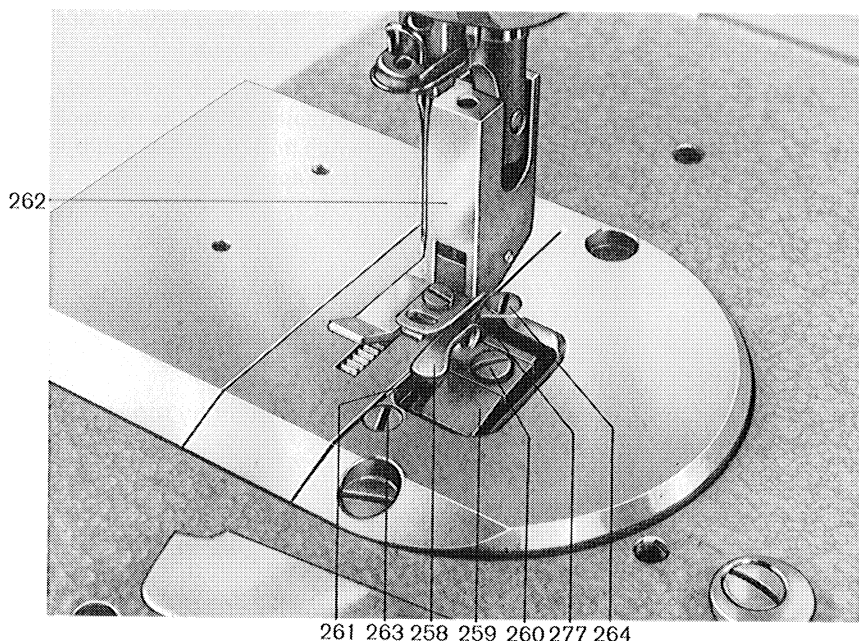
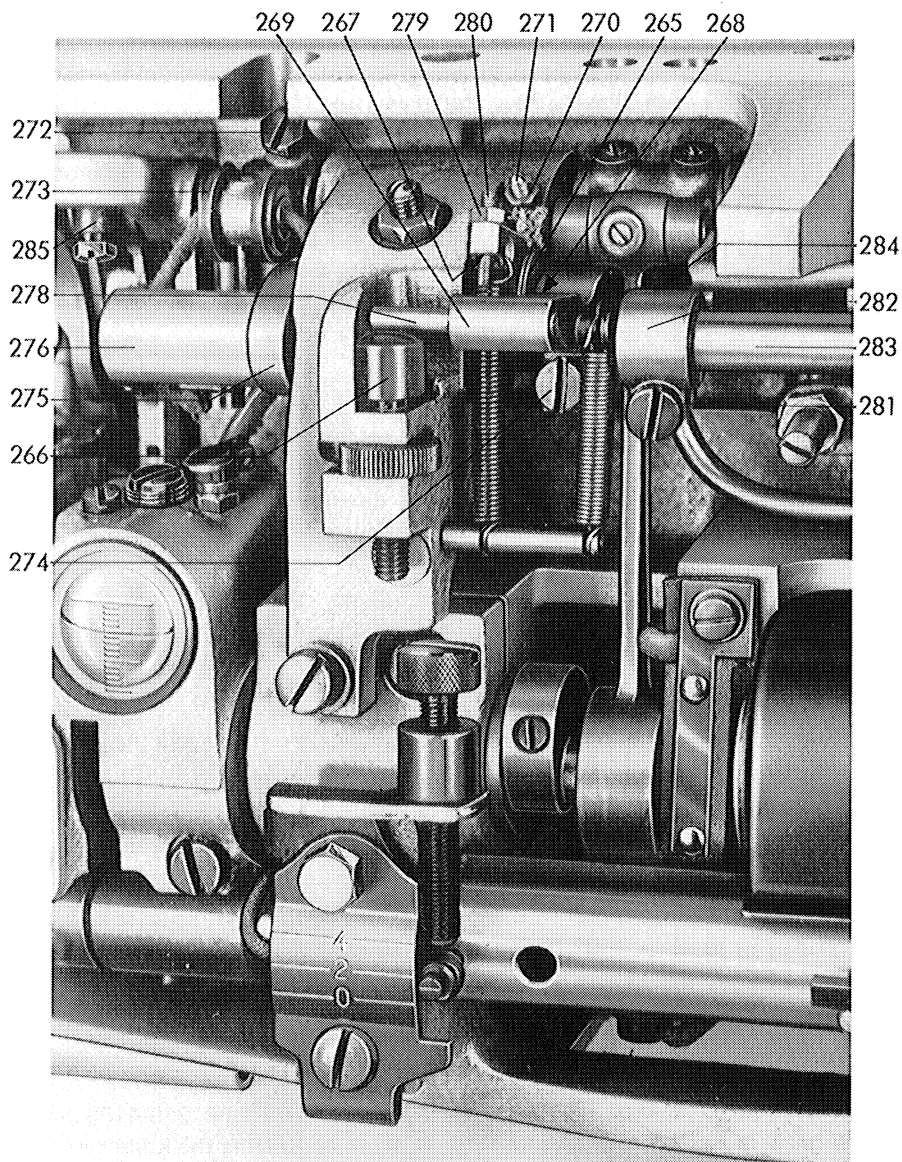

Fig. 40
Fig. 41
To change the spring-loaded upper knife 258 (fig. 40) shift slightly the knife carrier 259 to the right, hold it in this position, remove the screw 260 and fit a new knife.
The lower knife 261 (fig. 40) can be removed after having taken off the presser foot 262 and turned out the screws 263 and 264 from the throat plate. When replacing the lower knife ensure that the stellited side is showing to the right, i.e. to the upper knife.
In order to adjust the lowest position of the lifting movement which at the same time is also the lowest operation position of the upper knife, set first switch bush 265 (fig. 41) at zero. That means that in this position the eccentricity of the switch bush is not effective.
After loosening the thumb screw 272 (fig. 41) of the lifting lever 273 and the thumb screw 274 of the switch lever turn the lifting lever 273 on the lifting shaft so that the upper knife does not move when the floating axle 275 or the rocker arm is turned back and forth.
Turn the floating axle 275 (fig. 41) so that the rear upper edge 277 (fig. 40) of the knife carrier 259 is flush with the surface of the throat plate.
In this position, the pin 278 (fig. 41) of the switch lever 269 must rest on the stop screw 266 which is now in its lowest position. Following the adjustment retighten firmly the thumb screw 274 of the switch lever.
When the upper knife 258 (fig. 40) is disconnected, its left upper edge should stand about 0.5 mm above the upper edge of the lower knife 261.
2. Loosen the counter nut 279 (fig. 41).
Instead of the lifting lever 285 (fig. 41) DÜRKOPP 265-4103 has a set collar on the lifting shaft. This collar prevents the knife carrier
259 (fig. 40) from being pushed to far to the left by the spring action when the throat plate is removed. Adjust the set collar so that with the knife adjacent the distance between the right hand contact surface and the set collar of the knife lever amounts to about 1 mm.